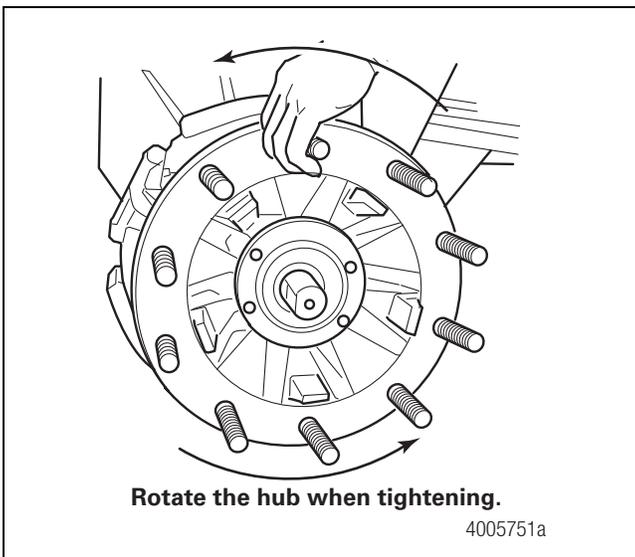

Figure 5.6
2. Once the hub is on the spindle, do not remove the outer bearing, which can misalign the seal. Mount the hub assembly onto the axle spindle with a smooth, firm motion while holding the outer bearing in place. Use care to maintain alignment between the bearing cones, spacer and spindle to avoid seal damage. Figure 5.6.